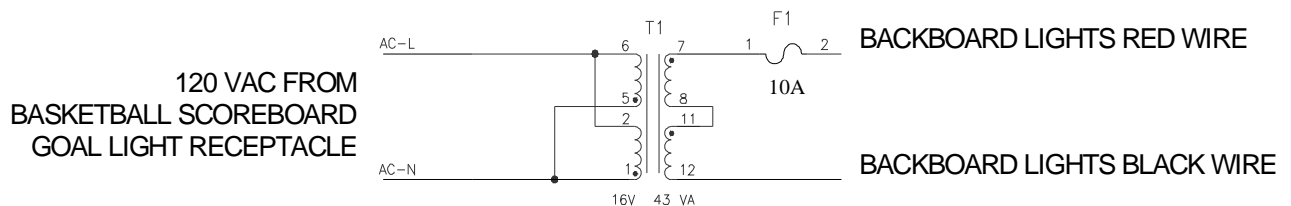

Fig. 3
2. Open the transformer enclosure assembly door (see Fig 3).
- At the other end, insert the cable in one of the holes in the transformer enclosure assembly (see Fig. 3).
- Use a wire nut to connect the black wire from inside the transformer enclosure assembly (labeled AC-L) to either wire in the cable (see Schematic in Fig. 3).
- Use a wire nut to connect the white wire from inside the transformer enclosure assembly (labeled AC-N) to other wire in the cable (see Schematic in Fig. 3).
- Use a wire nut to connect the red wire from inside the transformer enclosure assembly (labeled BACKBOARD LIGHTS RED WIRE) to either wire in the cable (see Schematic in Fig. 3).
- Use a wire nut to connect the black wire from inside the transformer enclosure assembly (labeled BACKBOARD LIGHTS black WIRE) to other wire in the cable (see Schematic in Fig. 3).